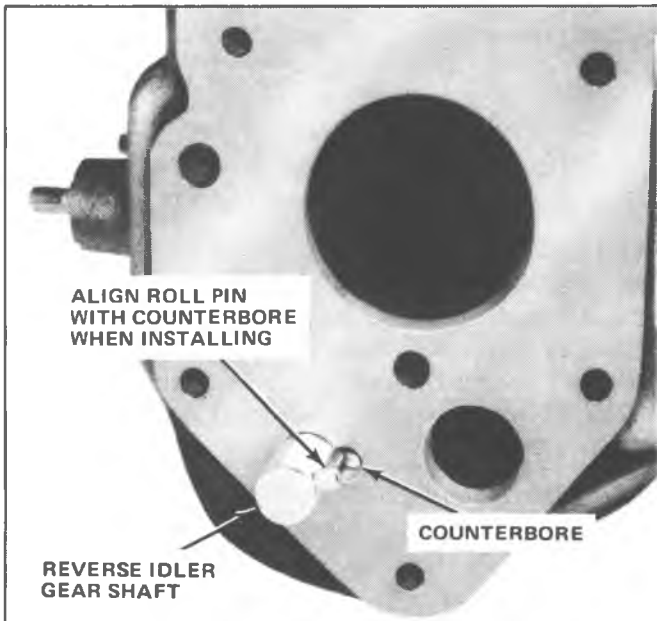

Fig. 12R--Removing Reverse Idler Gear Shaft
23. Remove reverse idler gear and thrust washers by tapping shaft with hammer until end of idler gear shaft (end with roll pin) clears counterbore in rear of case and remove shaft (fig. 12R).